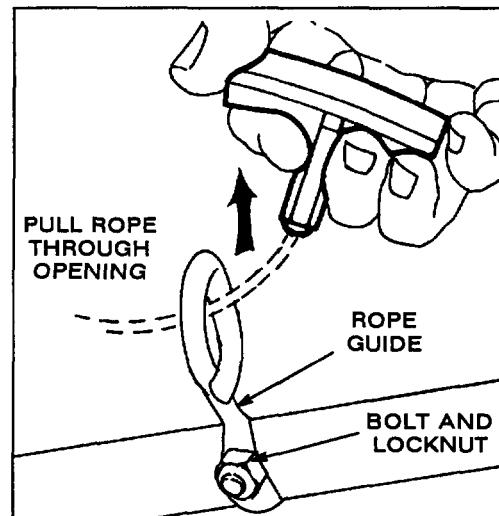

Figure 5
4. ATTACH ROPE GUIDE—Secure rope guide to upper handle with a bolt and locknut (Fig. 5).
5. Pull starter rope through rope guide on handle (Fig. 5).